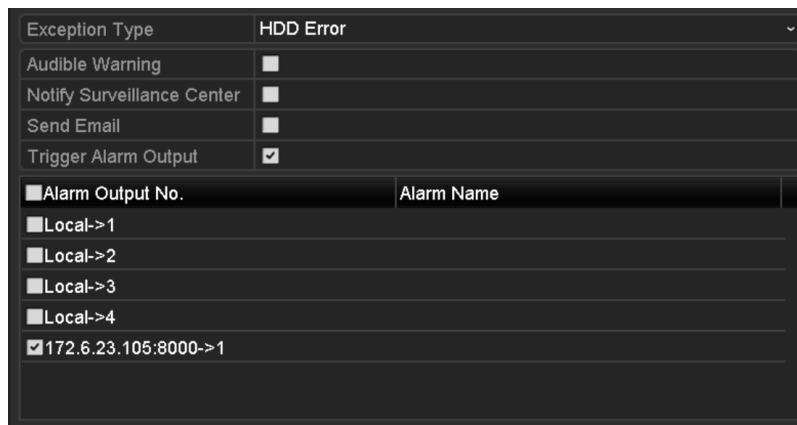

Figure 14-29 Configure HDD Error Alarm
Step 3 Click the checkbox(s) below to select the HDD error alarm type (s), as shown in Figure 14-29.